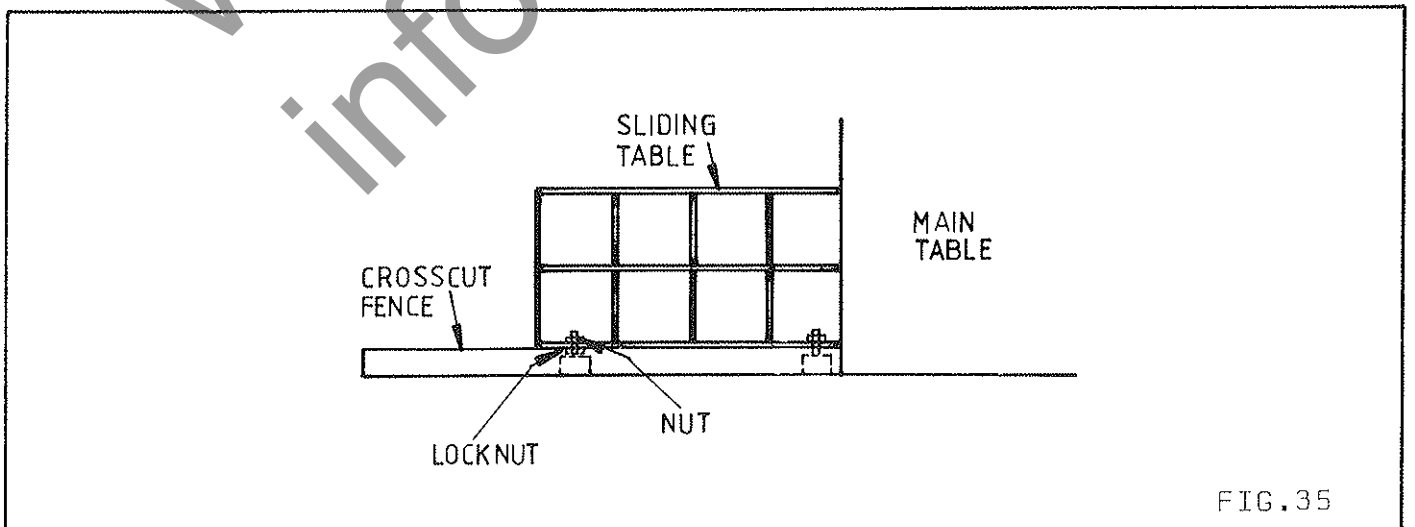

FIG.35
CROSSCUT FENCE SQUARENESS FIG.35
- 1) Loosen the socket head capscrew 'A' in FIG.35 with 8mm allen key (supplied with machine) and tap spindle (with hide face hammer) as required, taking care not to damage the threads on spindle ends.